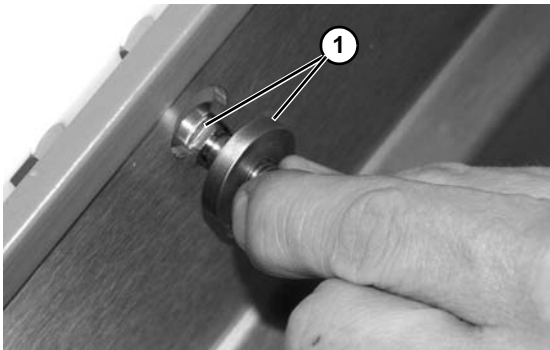

Figure 26
1. Insert carriage bolts with spacers (**Figure 26, item 1**) into slotted holes in conveyor side.